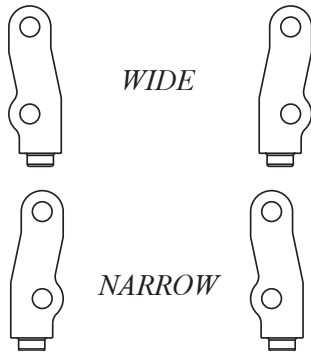

Figure 22
- ❑ 1. Use Figure 22 to determine how the Servo Mounting Posts (55), (56) should be attached to the servo (*not included*) in the Wide or Narrow position.
- ❑ 2. Place a #4 Hardened Washer (37) over each of the four 4-40 x 3/8" Button Head Screws (49) and attach the Servo Mounting Posts to the servo by threading the Screws through the servo mounting ears into the Upper and Lower holes in each Post. **Do not tighten the screws yet!** Just snug them up so that the posts are held in place, but can still be moved from side to side with a little resistance.